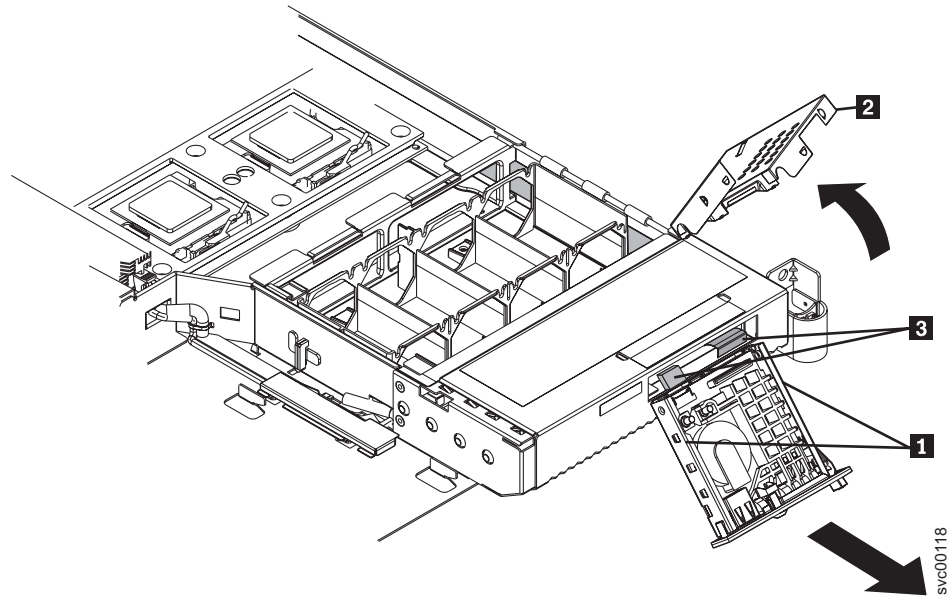

Figure 67. SAN Volume Controller 2145-8F2 with exposed operator information panel
5. Use a small screwdriver to push in the retention springs **1** on the sides of the operator information panel assembly. See Figure 67 on page 235.